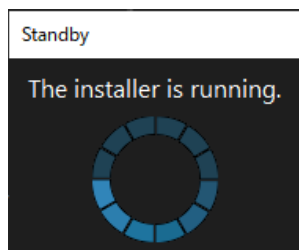

Fig. 1.6 Standby Screen
4) The standby screen (Fig. 1.6) is displayed. Wait for the installation to launch.